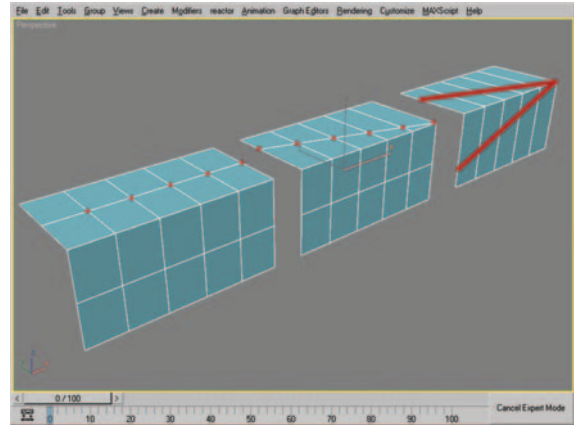

Figure 10.18 Vertex selection (left), after moving with Edge Constraints active (center), and repeating on the front facing vertices (right).
4. With Edge Constraints active at the Vertex subobject level, move the vertices at the top of the mesh seen in Figure 10.18 (left) to the configuration seen in Figure 10.18 (center). Repeat the process with similar spacing on the vertices on the front of the mesh (Figure 10.18, right).